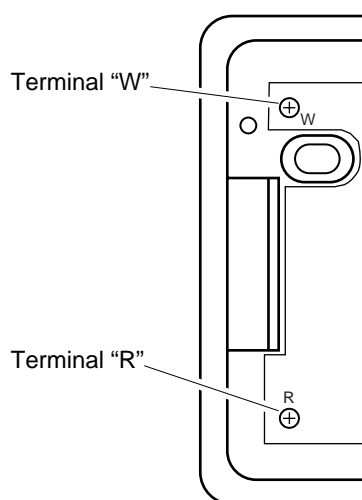

Figure 35 - Thermostat Base Terminals "W" and "R"
6. Connect one bare wire end to each terminal ("W" and "R") of the thermostat base (see Figure 35).